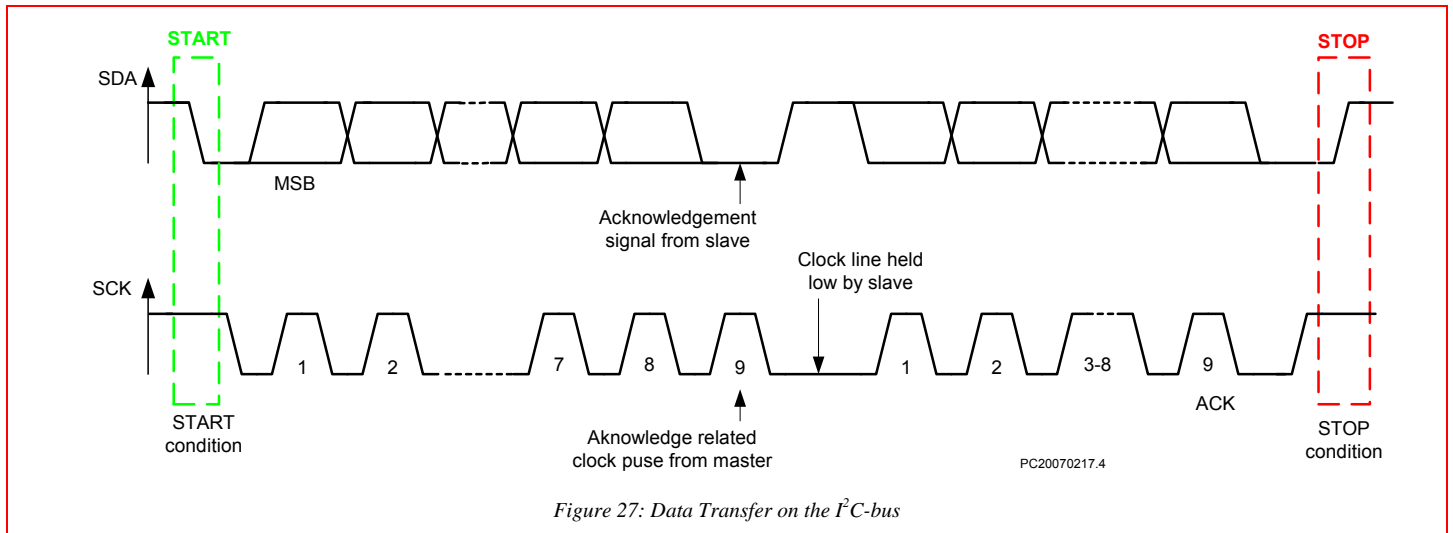

Figure 27: Data Transfer on the I²C-bus
The bus stays busy if a repeated START (Sr) is generated instead of a STOP condition. In this respect, the START (S) and repeated START (Sr) conditions are functionally identical (See Figure 27). The symbol S will be used to represent START and repeated START, unless otherwise noted.
Every byte put on the SDA line must be 8-bits long. The number of bytes that can be transmitted per transfer to AMIS-30624 is restricted to eight. Each byte has to be followed by an acknowledge bit. Data is transferred with the most significant bit (MSB) first (See Figure 27). If a slave can't receive or transmit another complete byte of data, it can hold the clock line SCK LOW to force the master into a wait state. Data transfer then continues when the slave is ready for another byte of data and releases clock line SCK.